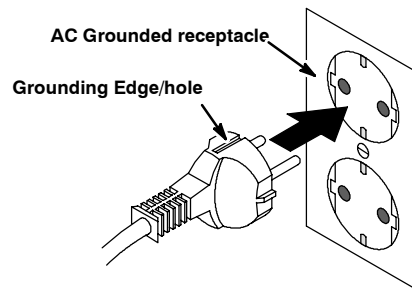

FIG. 35
5. Connect the charger's AC power supply cord to a properly grounded receptacle (Figure 35).